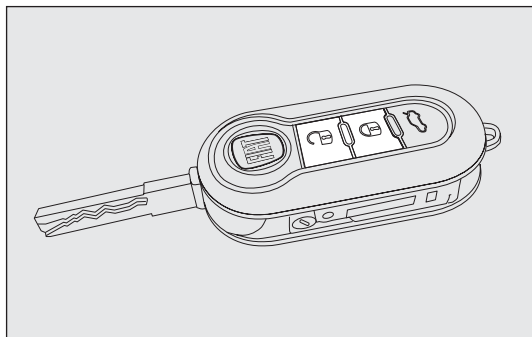
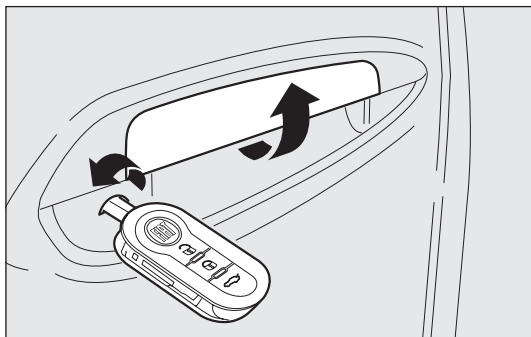
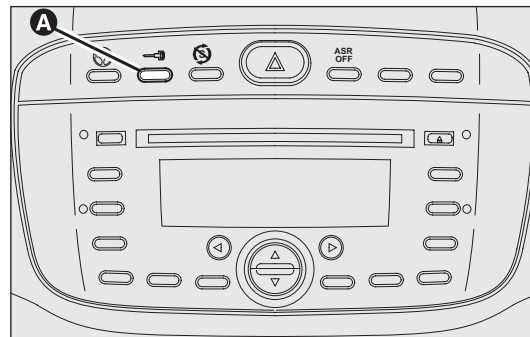

fig. 85
fig. 86
fig. 87
With the doors closed, press button  on the remote control fig. 85 or insert the key in the driver-side door and turn clockwise fig. 86. The locking of the doors is signalled by the LED on button A-fig. 87 flashing once. The doors can be locked only if they are all shut. If one or more doors are open after pressing button  on the remote control fig. 85, the direction indicators and the LED on the button A-fig. 87 flash quickly for approximately 3 seconds.
If one or more doors are open turning the key, only the button LED flashes. If the doors are closed but the boot is open, the doors are locked: the direction indicators (only when locking is carried out using button  fig. 85) and the LED on button A-fig. 87 flash quickly for approximately 3 seconds.
With this function on, you can still unlock the other doors by pressing button A-fig. 87 on the central control panel.
Double-tapping button  on the remote control fig. 85 activates the dead lock device (see “Dead lock”).
Briefly press button  fig. 85 to unlock the doors remotely, turn on the ceiling lights for a limited period and double flash the direction indicators, or insert the key into the driver's door lock and turn it anti-clockwise as shown in fig. 86.
Press button A-fig. 87 to lock/unlock all doors. The button has an LED that indicates whether the doors are locked or unlocked. When the doors are locked, the LED is on and pressing the button brings about central unlocking of all the doors and turns off the LED. When the doors are unlocked, the LED is off and pressing the button brings about central locking of all the doors. The doors will be locked only if all the doors are properly shut.
it will not be possible to unlock them by pressing button A-fig. 87 on the dashboard.
- ☐ locking/unlocking button A-fig. 87;
The dead lock device is automatically activated on every door when you double-tap button  on the remote control fig. 85.
Device activation is indicated by 3 flashes of the direction indicators and the flashing of the LED on button A-fig. 87 on the dashboard.